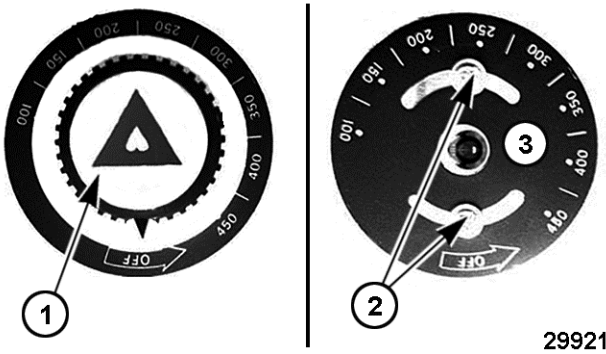

Fig. 24
- Loosen set screw then remove knob (1, Fig. 24) from temperature control shaft. **Do not rotate the knob during removal.**
4. Loosen screws (2, Fig. 24) on the temperature dial (3, Fig. 24) so the dial will rotate.